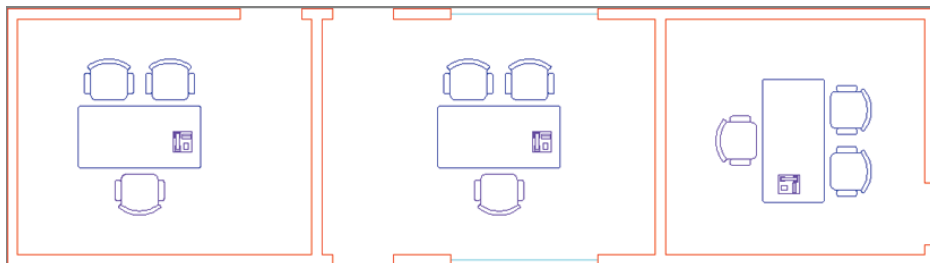

FIGURE 7.27 Copying and rotating groups in rooms
4. Click the Rotate tool on the Modify panel, select the group in the room on the right, and press Enter. Click an arbitrary point inside the desk, type **-90**, and press Enter (see Figure 7.27).